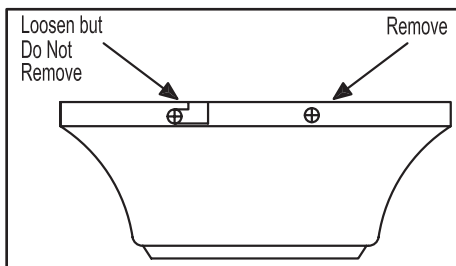

Figure 5
two non-slotted screws and loosen the slotted screws. This will enable you to remove the mounting plate (Figure 5).
1. Remove the mounting plate from the canopy by loosening the four screws on the top of the canopy. Remove the two non-slotted screws and loosen the slotted screws. This will enable you to remove the mounting plate (Figure 5).